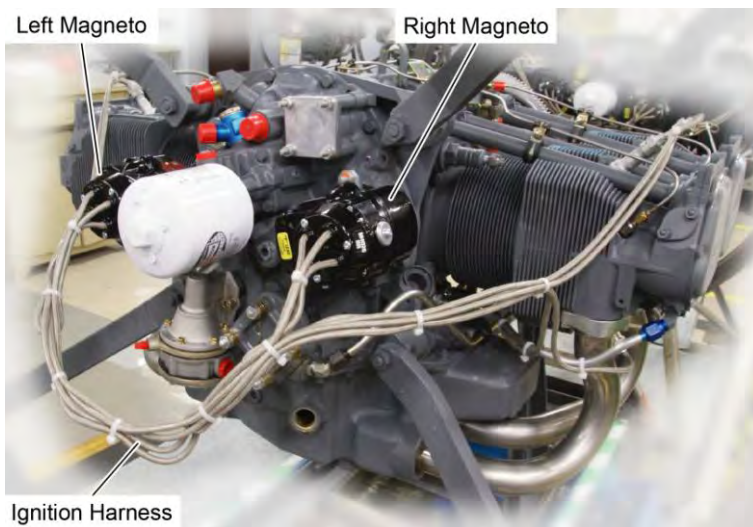
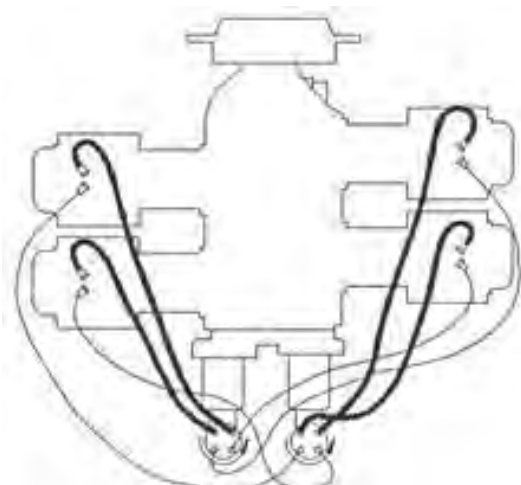

Figure 5
Figure 6
- A. Remove the ignition harness (Figure 5) from the engine harness.
- (1) Disconnect the clamps that attach the ignition harness to the engine.
- (2) Remove the screws which attach the harness cap to the magneto.
- (3) Disconnect the ignition leads from the spark plugs.
- (4) Remove the ignition harness.
- A. Examine the ignition harness (Figure 5) for broken, frayed, chafed, abraded, degraded, overheated or damaged wiring and connections. Replace the ignition harness if a wire is broken, frayed, chafed, abraded, degraded, overheated, or damaged. Wiring degradation includes:
- (1) Degraded wire repairs or slices
- (2) Heat damaged or burnt wire
- (3) Vibration damage or chafing
- (4) Cracked insulation
- (5) Arcing
- (6) Insulation delamination
- C. Figure 6 shows an example of ignition harness routing. Your harness routing configuration could be different due to engine installation arrangement.
- A. Attach the left ignition harness to the left magneto (Figure 5).
- (4) Torque the spark plug lead nut per instructions in the latest revision of Service Instruction No. SI-1042.
- D. Position the ignition harness (Figures 5 and 6) to prevent chafing by baffles or engine parts. There must not be any kinks or sharp bends in the ignition lead wire routing.